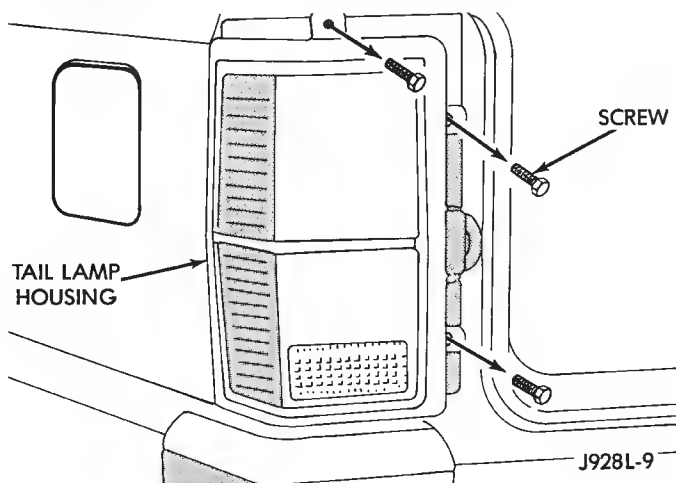

Fig. 16 Tail Lamp Housing
(1) Remove the tail lamp housing upper retaining screws (Fig. 16). Slide the lamp housing upward off the lower screw while tipping the top of the lamp away from the body and separate it from the rear of the vehicle.